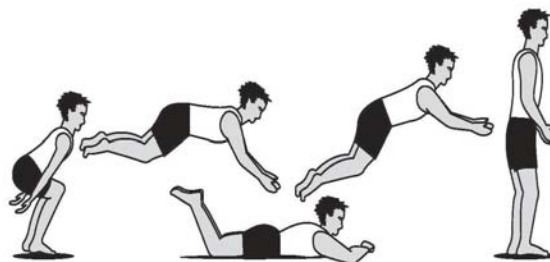

Figure 7: Front drop
- Perform skill as in Step 2 (see Figure 7).